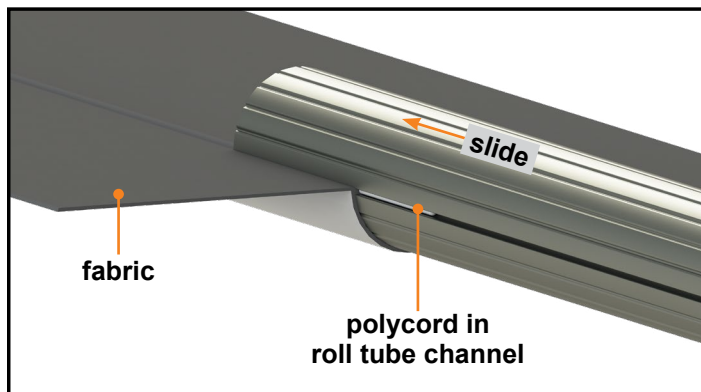

Fig.16
2. Gently slide the roll tube on to the two polycords of the fabric, making sure that the non-printed side is touching the roll tube (Fig.16).